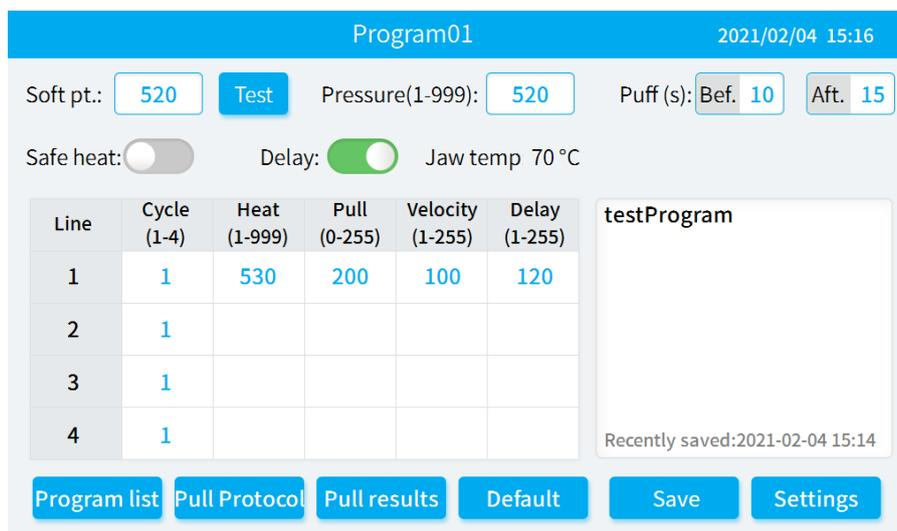
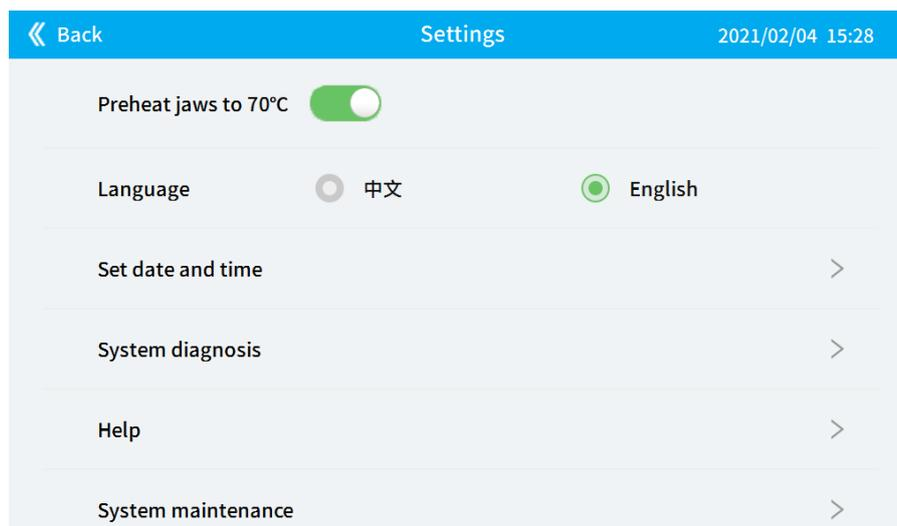

Figure 4-2
Figure 4-14
Wait 30s for the progress bar to load, enter the [Main Interface], as shown in Figure 4-2.
- 1) Click on the [Main Interface] as shown in Figure 4-2 to enter the [Softening point test] interface, as shown in Figure 4-4.
- 5) Click **OK** to enter the [Main Interface] shown in Figure 4-2, and the current softening point test value will be automatically filled in the softening point input box.
Click **Save** in the [Main Interface] as shown in Figure 4-2 to save the softening point value and all current parameters.
The jaw preheating function can improve the stability of the pulled microelectrode. When the ambient temperature is too low (lower than 10 °C) or the ambient temperature changes greater than 10 °C, click **Settings** on the [Main Interface] as shown in Figure 4-2 to turn on the “Preheat jaws to 70°C” function, as shown in Figure 4-14.
When **Jaw temp: 70 °C (Preheating accomplished)** is shown on the [Main Interface] as shown in Figure 4-2, press the green [START] button to start pulling.